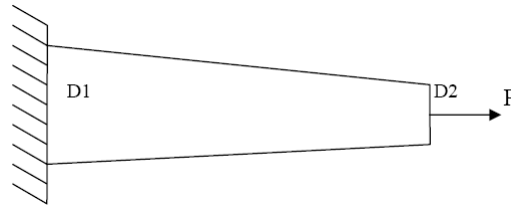

Figure P1.14
14. Model a tapered member of length L circular cross section as stepped shaft with several steps as shown in **Figure P1.14** and develop a discrete element methodology to evaluate the free end elongation. Show how the elongation converges to the exact value as the number of elements increase. Show a graph of the elongation value versus number of elements. D_1 and D_2 are diameter. Take $P = 10 \text{ kN}$, $E = 200 \text{ GPa}$, $D_1 = 10 \text{ cm}$, $D_2 = 5 \text{ cm}$, $L = 50 \text{ cm}$.